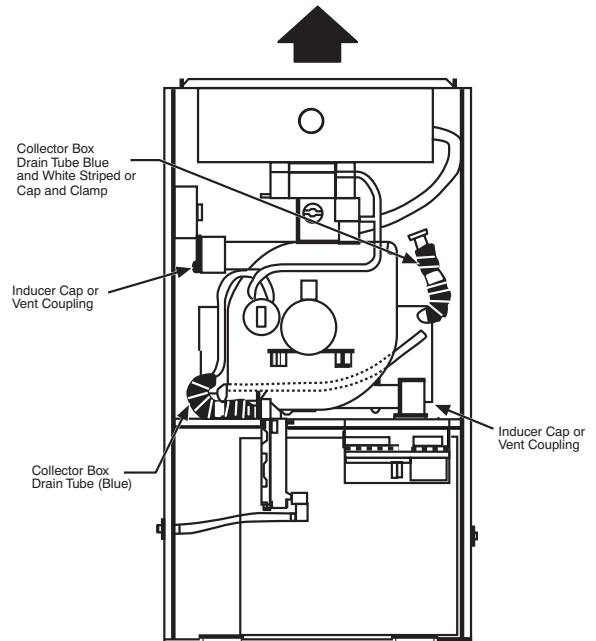

Fig. 1 - Rubber Parts Replacement Kit
NOTE: Fig. 1 shows a typical upflow installation. Units in other configurations will look different; however, the parts that need to be replaced will be in the same relative location inside the unit.
2. Replace the rubber parts listed in Table 2 in the furnace. Refer to Fig. 1 for part location.